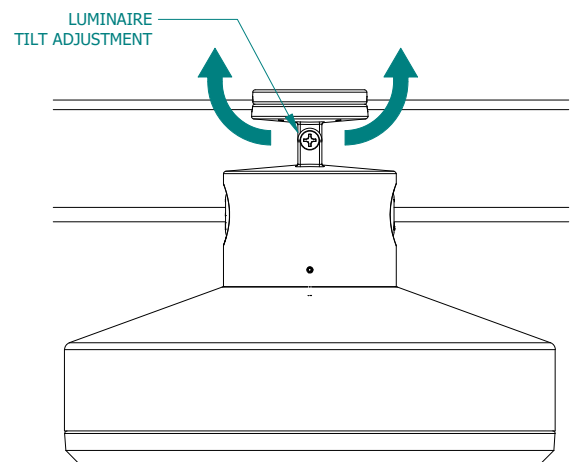

FIGURE 3
3. To adjust the tilt angle of the luminaire, loosen and secure the center locking tilt screw. (FIGURE 3)